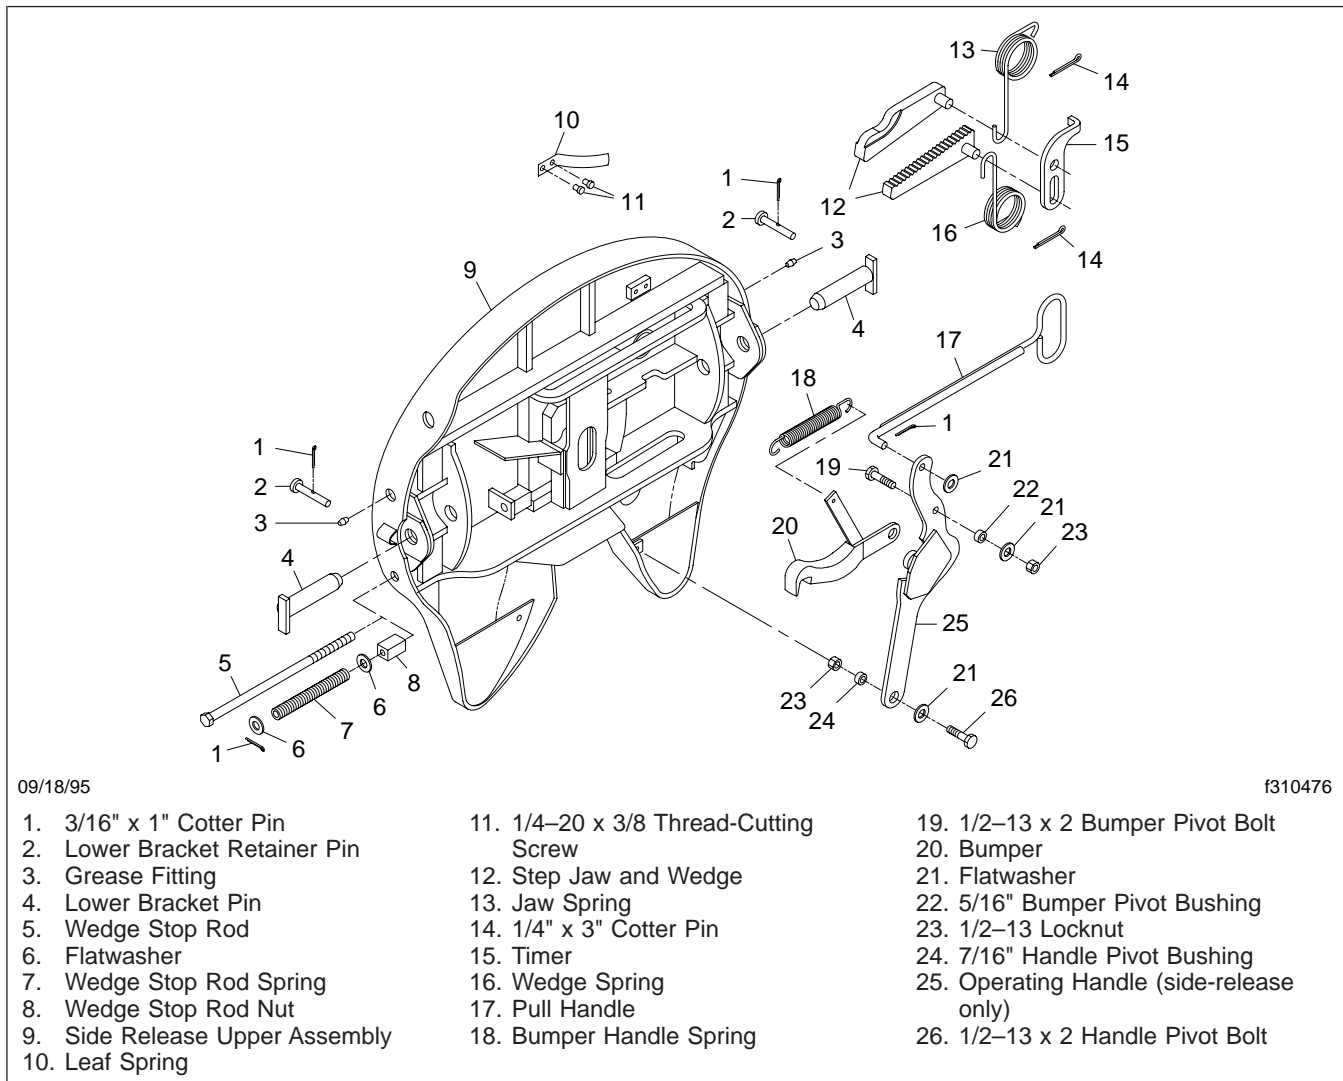

Fig. 1, Fontaine H5092 Series Fifth Wheel (Left-Side Release Shown)
6. Check for loose nuts or bolts (see **Fig. 1**) on the fifth wheel and on the mounting. Set a torque wrench to the maximum torque value for the bolt being checked, and confirm that the torque is to specification. Do not loosen the bolt to check the torque value. See **Group 00** of this manual for bolt torque specifications.